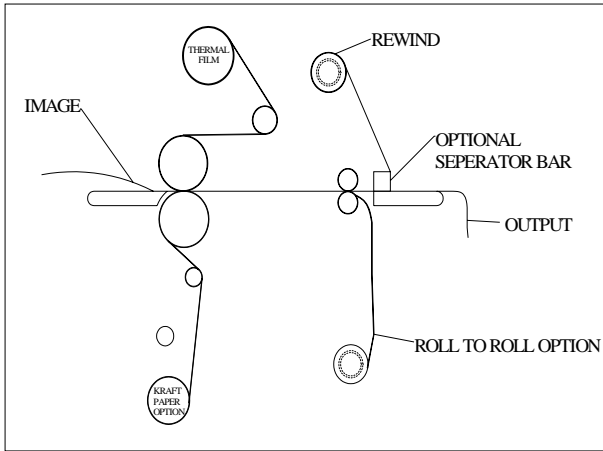

Figure 36
1. Load the laminator as illustrated in Fig. 36.